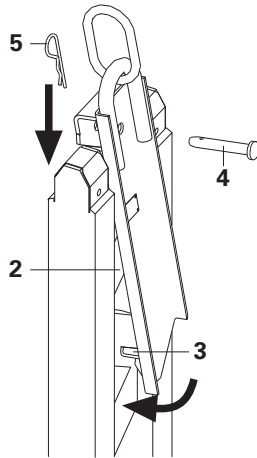

Fig. 1a
1. Release cotter pin (5), loose and remove pin (4) and insert Crane Splice 24 from above, at a slightly angled position, on the end strut of the GT 24 girder.
2. Swivel contact plate (2) and angle bracket (3) between the girder struts. (Fig. 1a)